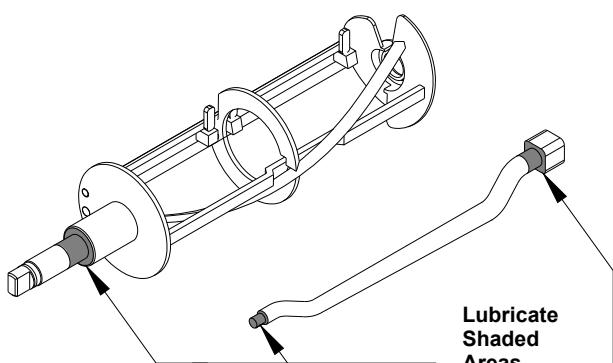
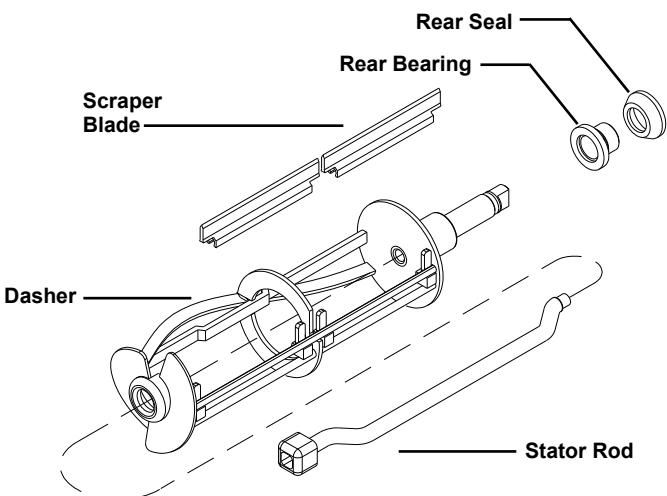

Fig. 16
Fig. 17
- a. Apply a generous amount of lubricant to the shoulder of the dasher and the area of the shaft where the white plastic portion of the assembled rear seal contacts the shaft (Fig. 16). This is easily performed by running a 1/4" (6 mm) bead of lubricant around the shoulder of the dasher.
- b. Lubricate the two areas of the stator rod (Fig. 16) and slide the stator rod into the dasher (Fig. 17). Make certain that the end of the stator rod is inserted into the hole at the rear of the dasher.
- c. Assemble and install the rear seal with the rubber portion toward the rear of the freezing cylinder as indicated in Fig. 17.